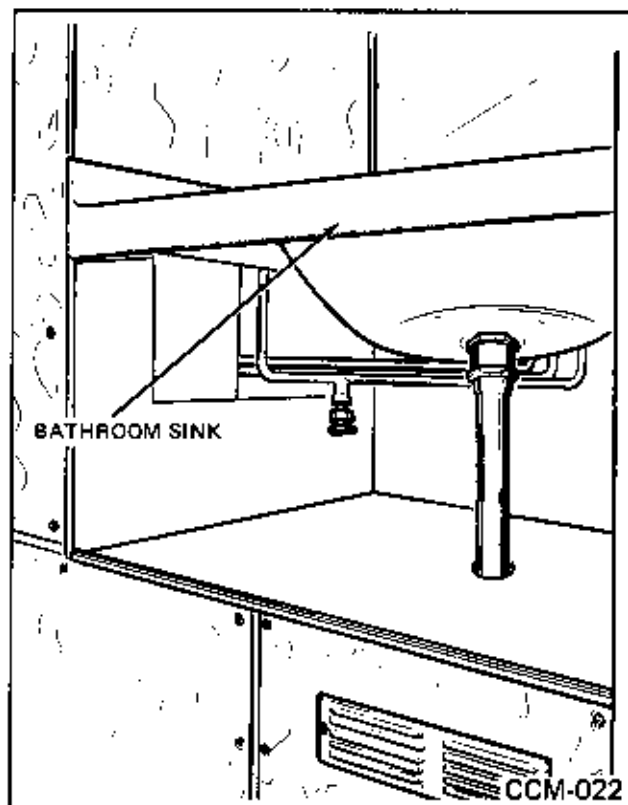

Fig. 22
4. Open shower line drain valve, (Fig. 22).